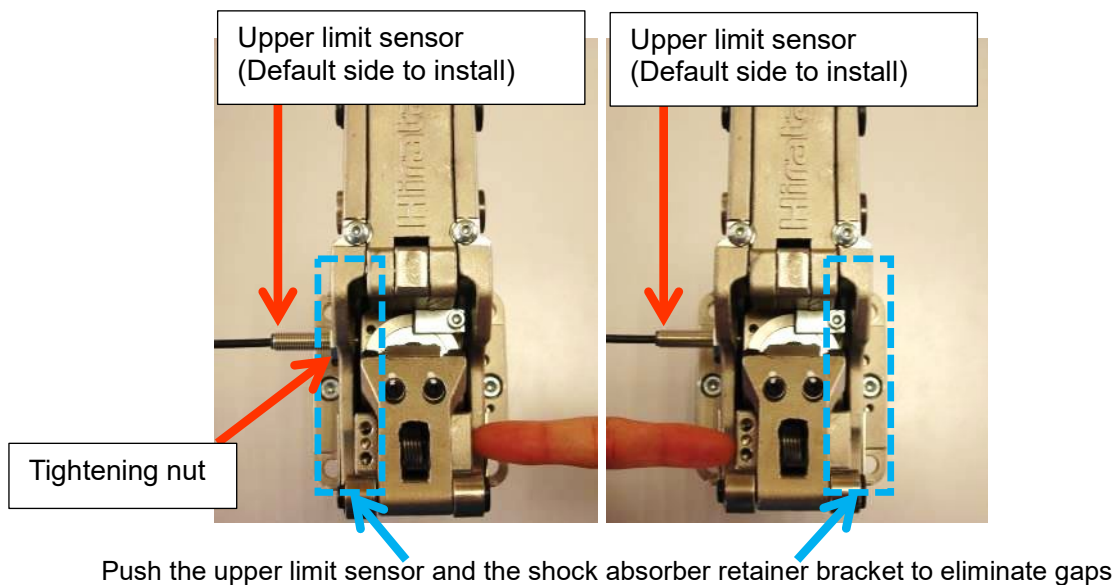

Fig. 2.17 Upper limit installation method (EST32, EST50 and EST80)
- As shown in Fig. 2.17, confirm that the indicator light of the upper limit sensor turns ON when the lever is pressed against the sensor and pressed away from the sensor as well.